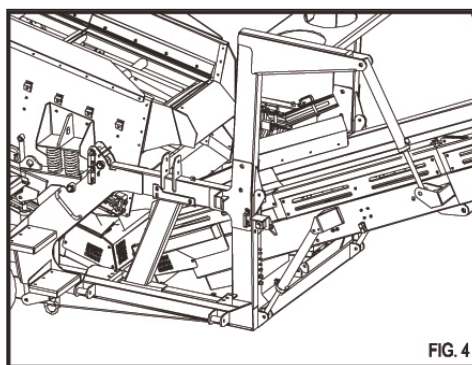

Figure 6.27 - Tail Conveyor and Screenbox Lowered
5. Using 4 bank control valve lower tail conveyor into lowest position. Using 5 bank control valve in power unit, lower the screen box into working position and pin, as shown in Figure 6.27.